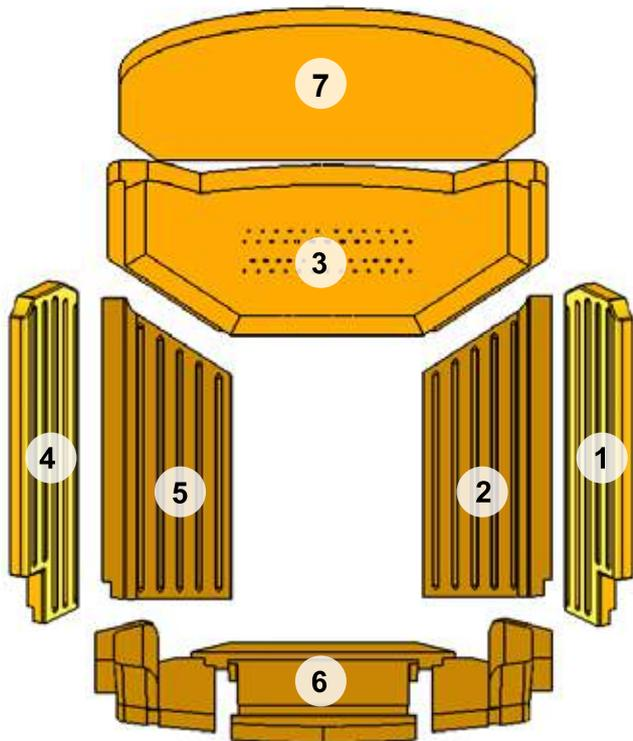

FIG 8
**Should it be necessary to unhook the door/doors,** unscrew the lid (FIG 8) above the air vent control.